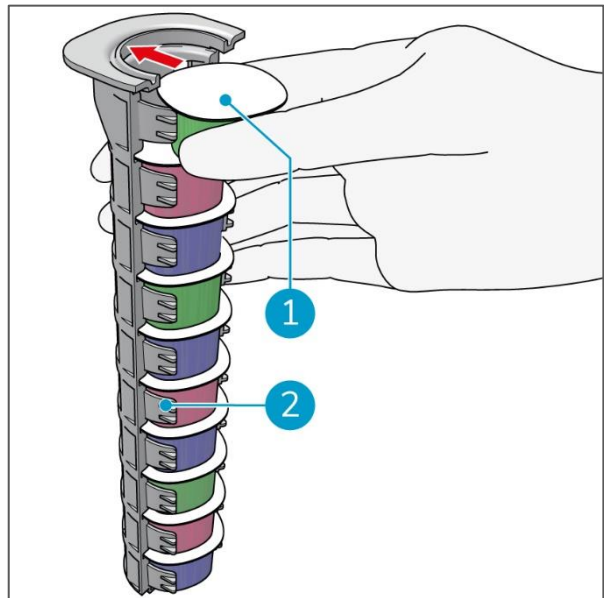

Figure 6
1. Place the pods (Figure 6, pos 1) into the pod dispenser (Figure 6, pos 2).